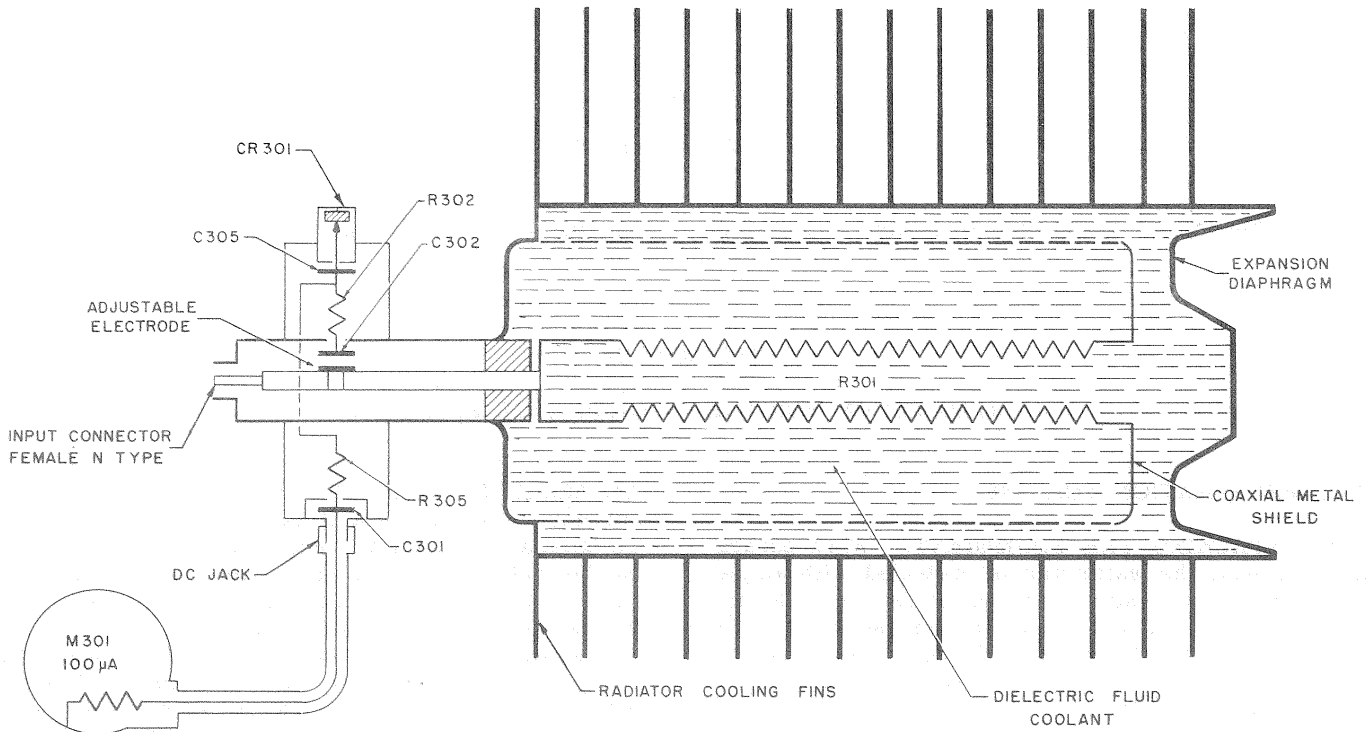

Figure 1-4. Cutaway Diagram of Wattmeter
1-16. STRUCTURE. The structure of load resistor R301 (figure 1-4) is coaxial. It has a characteristic impedance of 50 ohms from the input connector to a point about 2 inches behind the large mounting flange. The load resistance proper begins close to this point. The power dissipating portion of the resistor is the external surface of cylindrical, carbon film-on-ceramic resistor, which forms the center conductor of the coaxial termination system. At the far end of the resistor, the film is connected to a metal shell, which forms the return or outer conductor, of the coaxial structure.
1-18. COOLING SYSTEM. To carry away heat, resistor R301 is immersed in Oil, Insulating, for Transformer, Switches, and Circuit Breakers (OT). The oil conducts the heat, generated by the rf energy, through openings in the coaxial metal shell (figure 1-4) to the inside wall of the cylinder. From there, the heat is conducted to the radiator cooling fins and, by convection, is carried away by the surrounding air.
c. An expansion diaphragm is provided at the rear of the resistor housing (figure 1-4). As the temperature of the cooling oil rises, the oil expands; the diaphragm allows for this expansion. The diaphragm is removable and can be replaced if it leaks.
1-20. CRYSTAL DIODE. The 1N79 crystal diode CR301 is inserted into a holder on the side of the voltmeter block and covered by a knurled screw cap. It maintains a dc voltage across the button-mica shunt capacitor C305 that is located close to the tip of the crystal connector (figure 1-4). Surrounding this connector is a small cylinder of ferrite that serves as an rf choke against excessive energy at high frequencies. The components are arranged in the voltmeter block for effective rf bypassing, with a minimum of residual inductance.